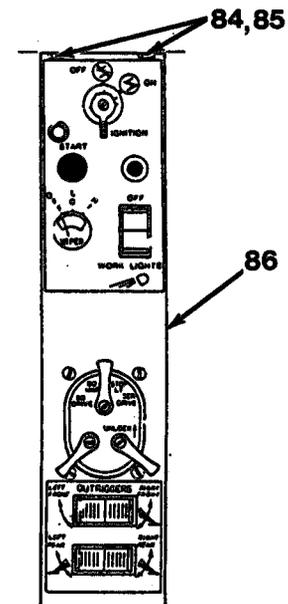

Figure 17-10
23. Install side sloping dash panel (86), capscrew (85) and nut (84, Figure 17-10).